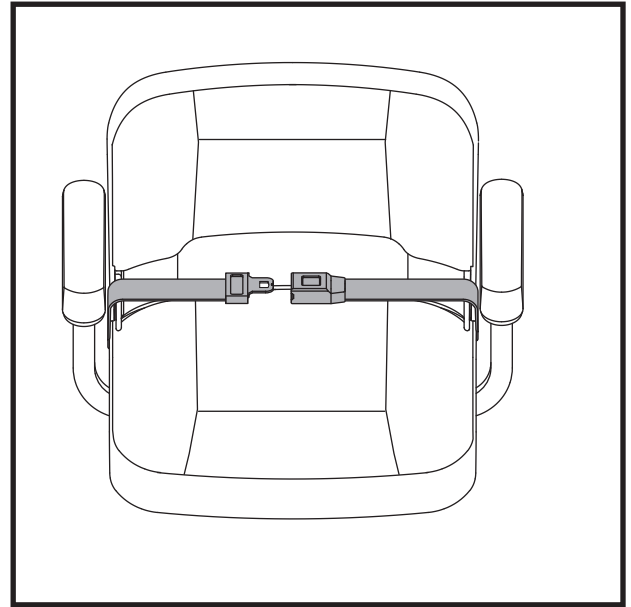

Figure 26. Positioning Belt - Metal Tab Style
1. Insert the metal tab on the right side of the belt into the plastic housing on the opposite strap until you hear a “click.” See figure 26.